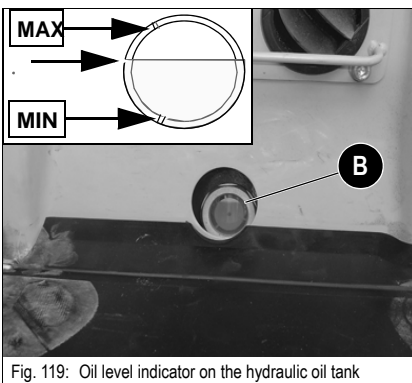

Fig. 119: Oil level indicator on the hydraulic oil tank
- The oil level must be about 1 cm (0.4") over the center, between positions **MIN** and **MAX**, as shown by the arrows in fig. 119.